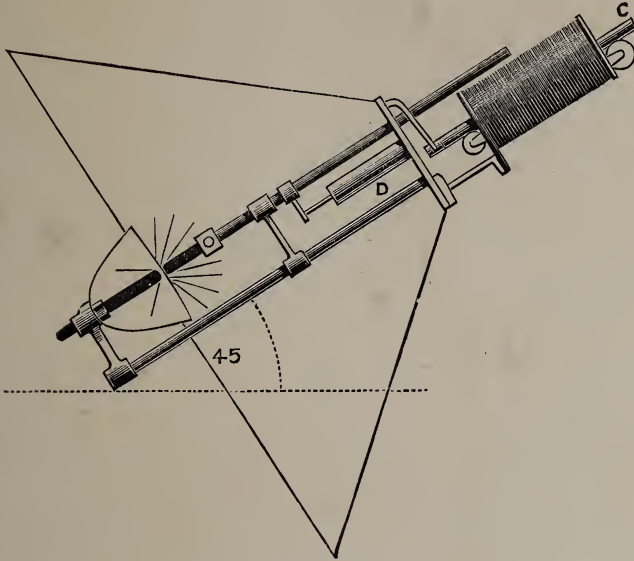

Fig. 41.
The next arrangement for portraiture is one of the author's design, and is made for any kind of current. It is a clutch lamp, and is shown in diagram in Fig. 41. A single coil works a laminated core, which pulls up a clutch lifting the sliding rod and so forms the arc; as the arc lengthens the current
For instance, in Fig. 41 we have a core (C) in the mechanism, which acts by gravity. This is a drawback to that mechanism, for it requires the lamp to be used always at the same angle, so that gravity may always be the same. This is not of much consequence, however, for there is only one angle at which the best portraiture work can be effected—an angle of about 45°.